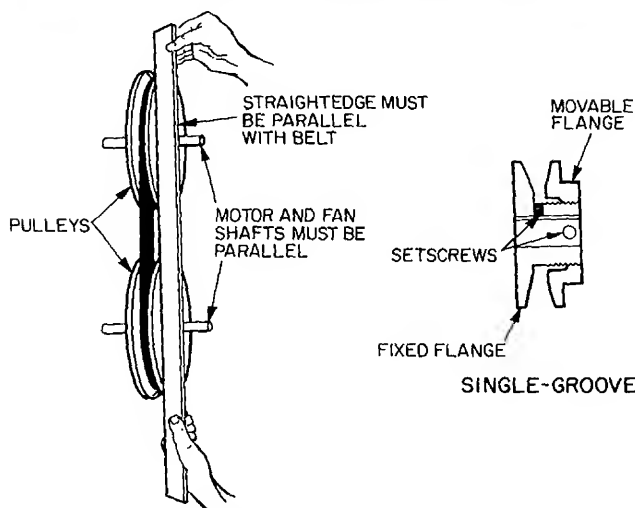

Fig. 11 — Evaporator-Fan Pulley Adjustment
3. Loosen movable pulley flange setscrew (see Fig. 11)